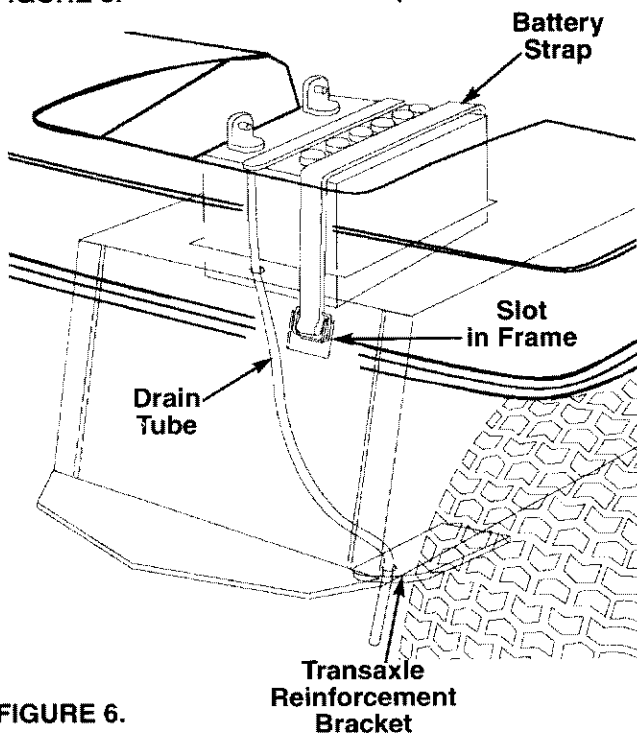

FIGURE 6.
6. Secure battery by hooking battery strap into slot in rear frame, under the fender. See figure 6.
7. Insert the drain tube through the hole in the transaxle reinforcement bracket located on the **right** side of the unit. See figure 6. Be certain drain tube is routed away from the wheel rim.